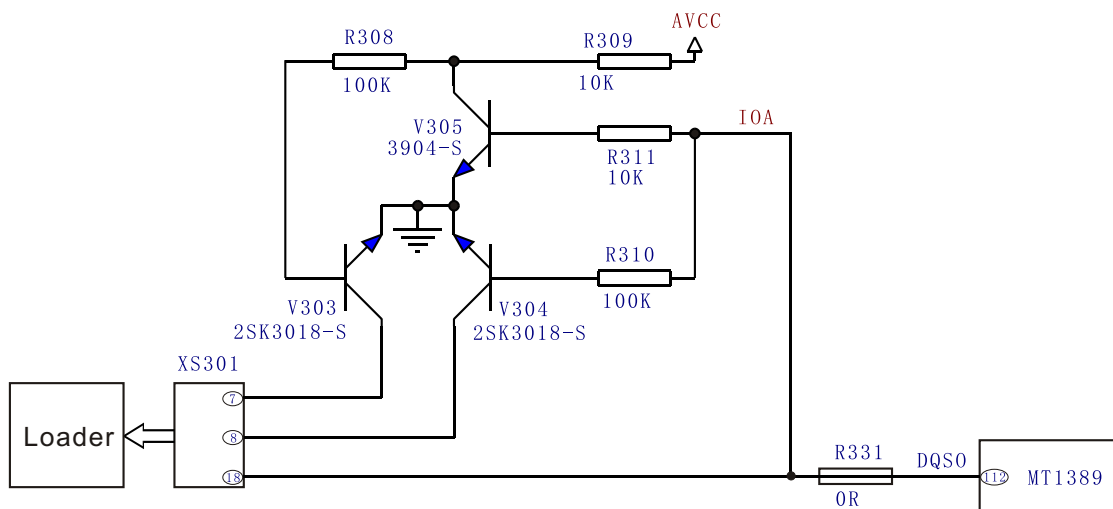

Figure 3.2.4.1 Disc identification circuit diagram
1. Disc identification circuit is shown as the following figure 3.2.4.1: